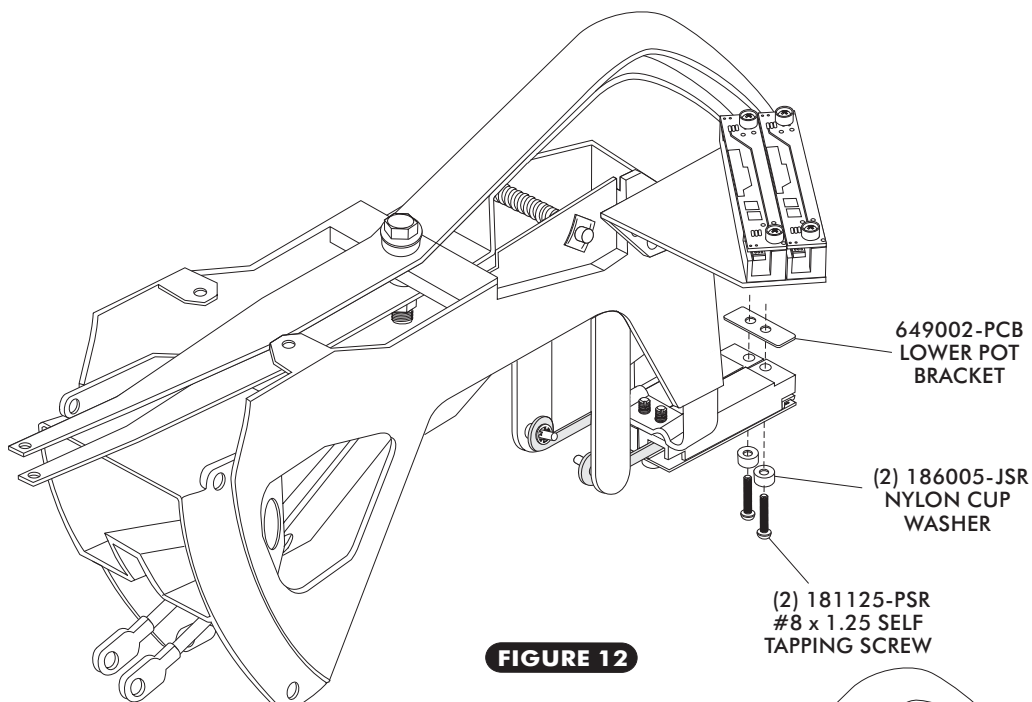

FIGURE 12
- SECURE THE COLD & HEAT PC BOARD, CAST POT HOLDERS TOGETHER USING (2) #8 x 1.25" SELF TAPPING SCREWS WITH NYLON CUP WASHERS. PASS THE SCREWS WITH CUP WASHERS THROUGH PC BOARDS AND POT HOLDERS AND THREAD INTO THE LOWER POT BRACKET AS SHOWN. SEE FIGURE 12.